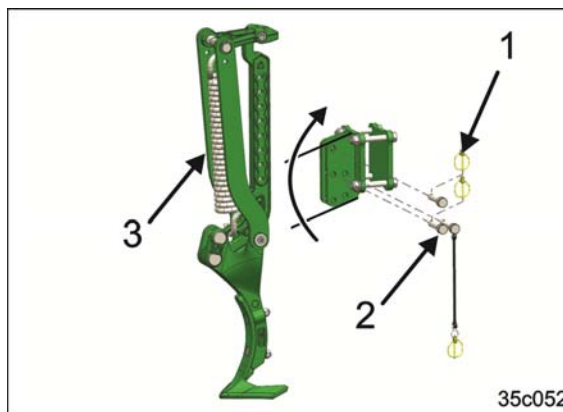

Fig. 126
1. Remove all of the linch pins (Fig. 126/1).
3. Remove all of the positioning pins (Fig. 126/2).